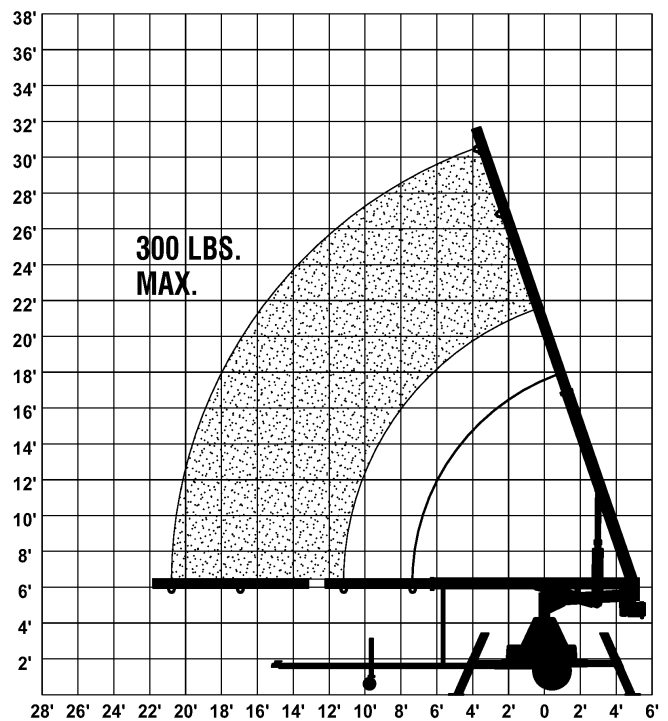

Figure i-2
Two (2) anchor points are provided for lifting loads up to 500 pounds with the personnel bucket removed. The inner lanyard ring has a 500 pound load rating with the boom fully retracted. The outer lanyard ring has a 300 pound crane-load rating in any position. (See Figure i-2) *Note: The 500 pound load rating is ONLY during crane operation, and ONLY on the inner ring with the boom fully retracted.*
\*\* 500 lb. (227 kg) rating at full retraction only (inner arc - Figure i-2).